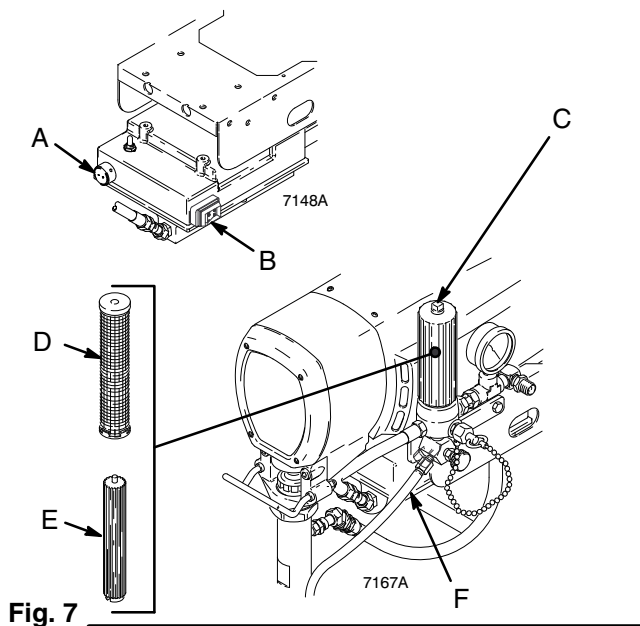

Fig. 7
2. Remove filter bowl (C) and screen (D). Install bowl (C) and filter support (E) without screen (D) to flush. See Fig. 7.
3. Close pressure drain valve (F).